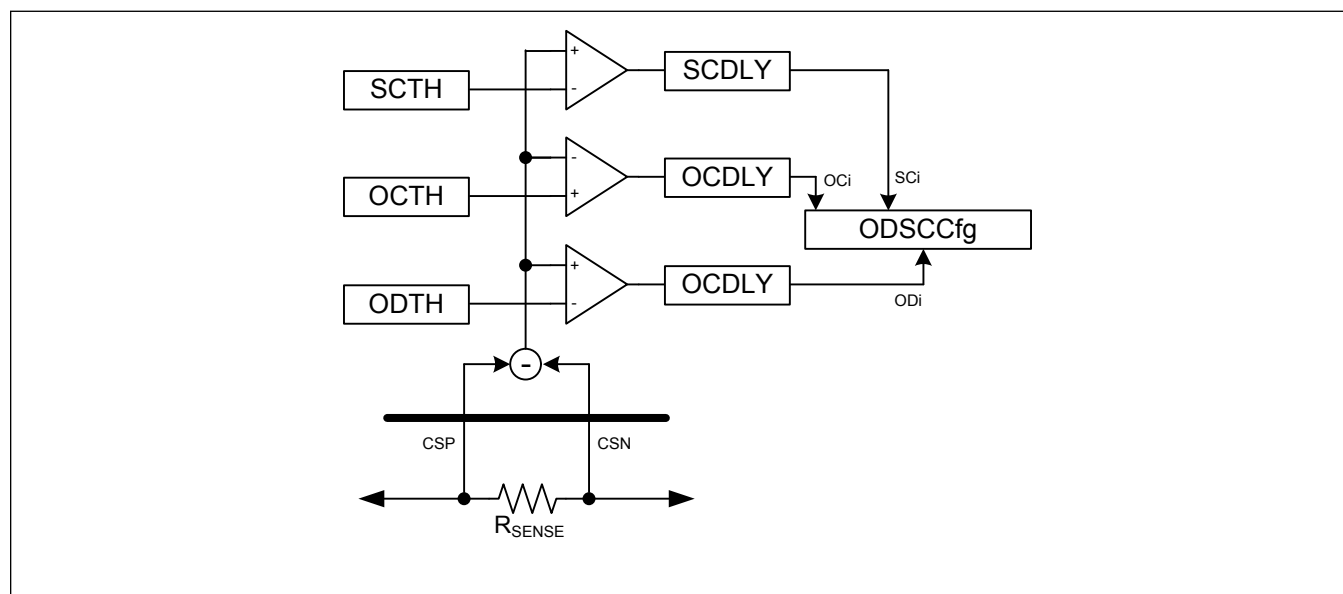

Figure 11. Overcurrent Comparator Diagram
The MAX17330 contains three programmable fast overcurrent comparators called Overdischarge (OD), Short-Circuit (SC), and Overcharge (OC) that allow control protection for overdischarge current, short-circuit current, and overcharge current. These comparators have programmable threshold levels and programmable debounced delays. See Figure 11.